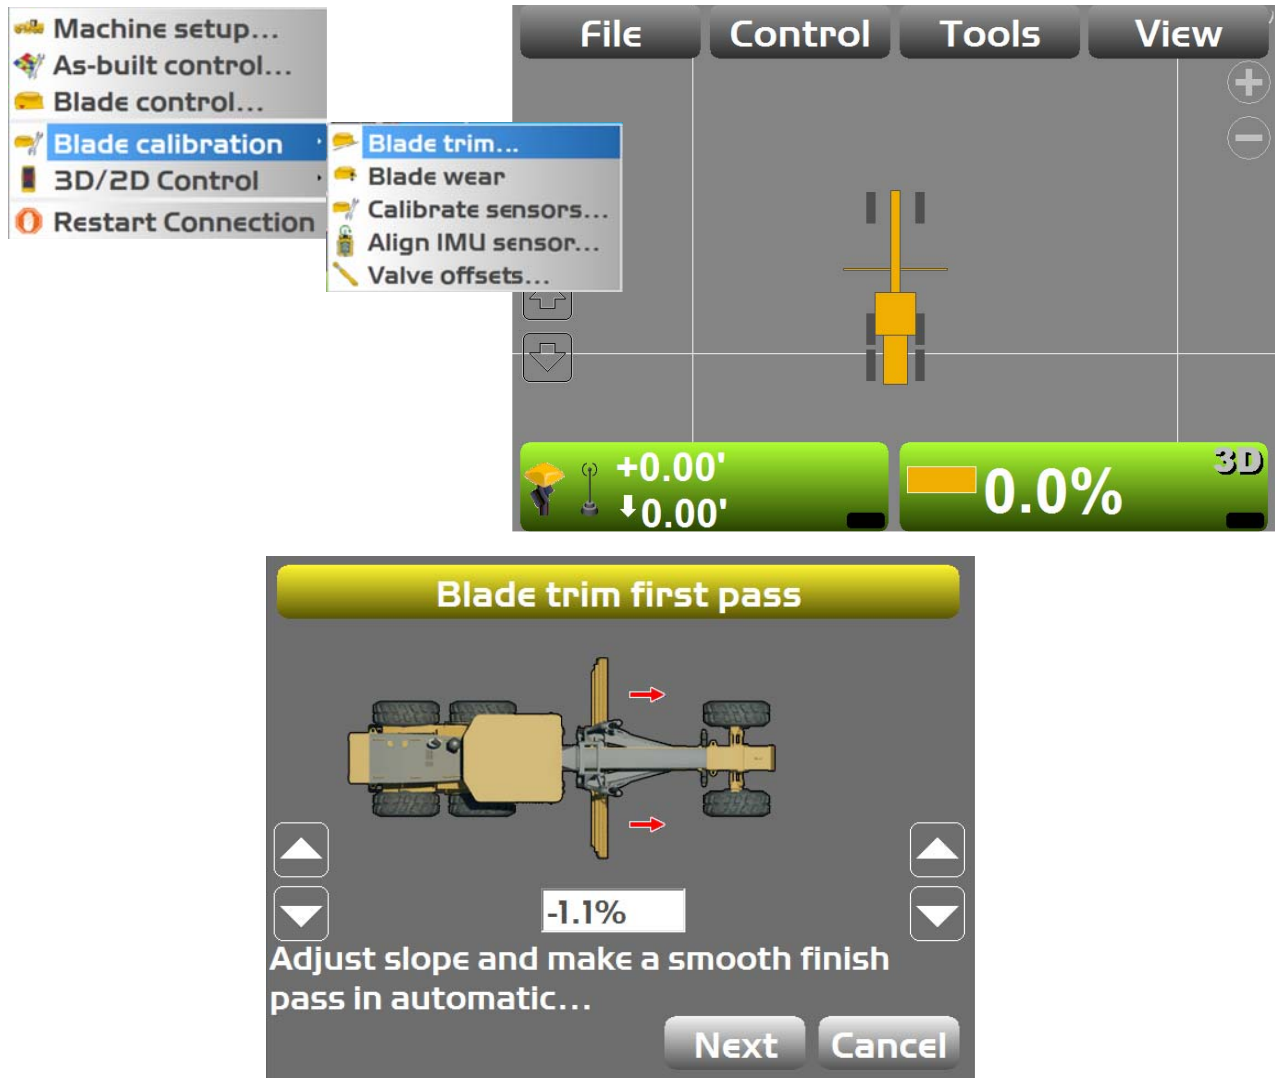

Figure 125: Blade Trim
1. Press the Power button on the display, then tap **Control** ▶ **Blade calibration** ▶ **Blade trim**. The **Blade trim first pass** screen appears (Figure 125).